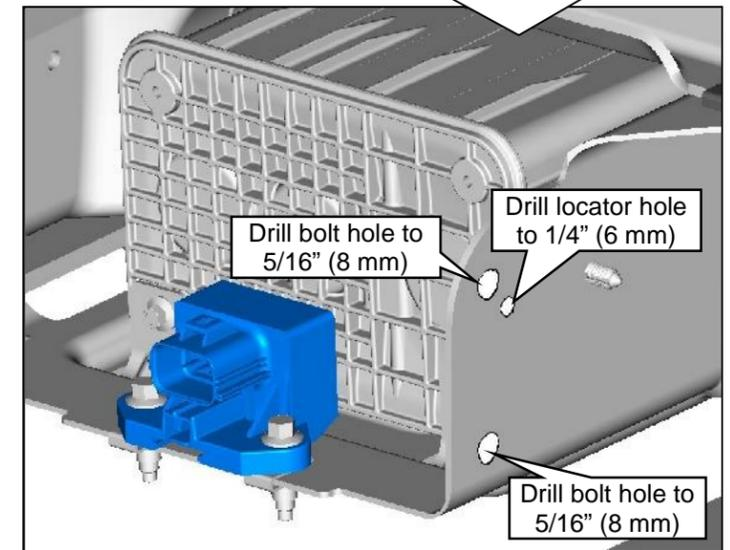

Figure 19.3 — OEM Aft-axle Tank Version
9. Drill the two marked bolt holes to 5/16" (8mm) and the EFPR locator marked hole to 1/4" (6 mm). **Figure 19.3.**